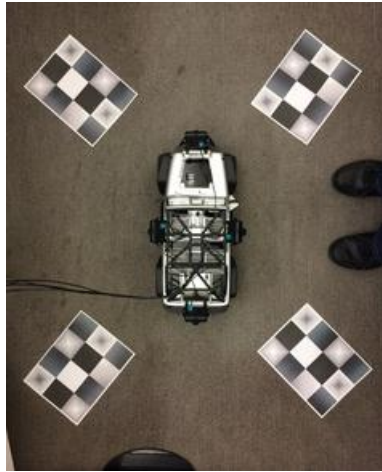

Figure 6 - Positioning of calibration charts
7. Either before or after dumping the frames, capture a reference bird-eye view image with a camera for your current setting. When taking the reference, not only camera positions should not change, charts positions and jeep position should all remain the same. You can take the reference image with a camera, try to give the camera a good bird-eye view of the jeep such that all the charts have equal sizes in the reference, one example is shown in Fig. 6.